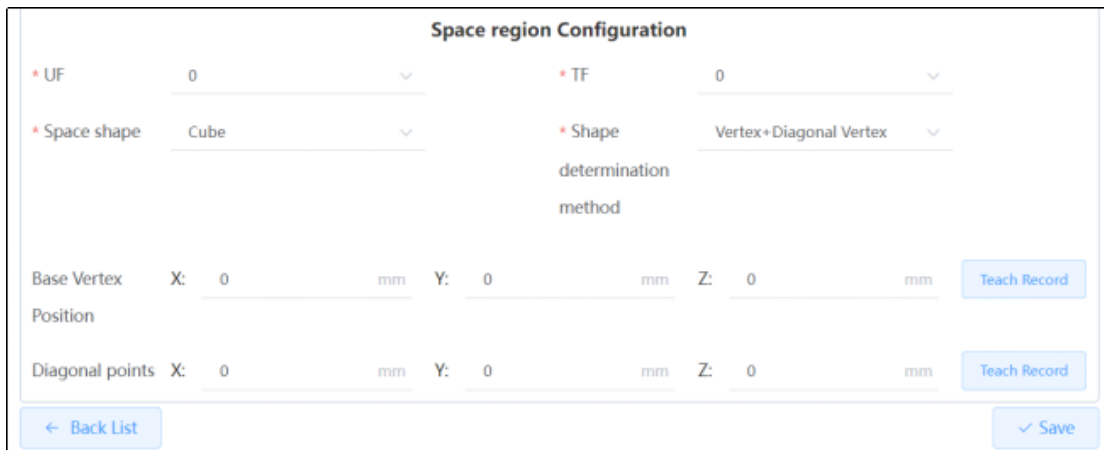

Fig. 8.11 Saving of Basic Space Anti-interference
2. After setting, click "Save" → "Return" → "Deactivate/Activate" to activate the interference region as shown in Fig. 8.11.